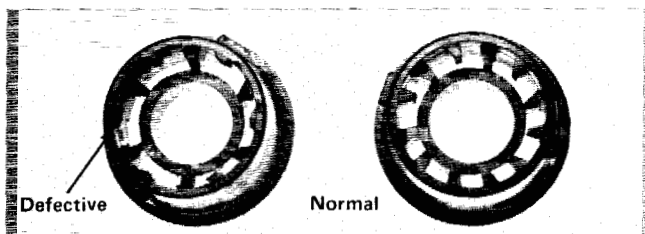

Figure 1.5
1.5 CHECK FOR DIRTY OR DAMAGED CORE (fig. 1.5)